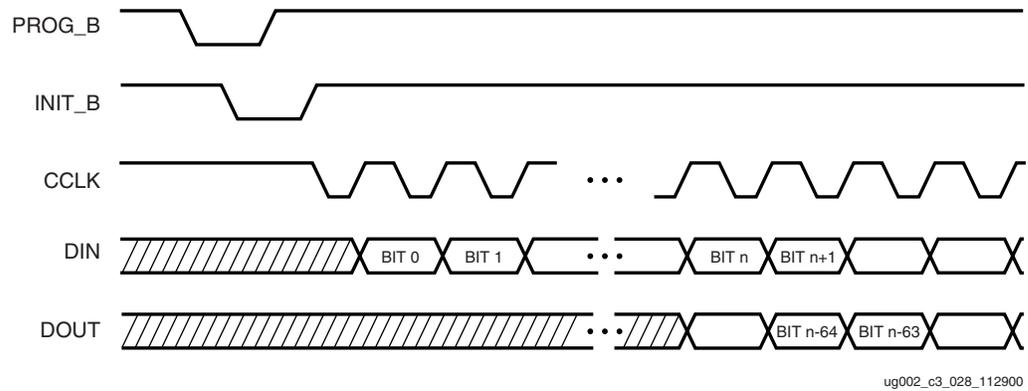

Figure 3-13: Serial Configuration Clcking Sequence
1. For Slave configurations, a free running CCLK can be used, as shown in Figure 3-13.